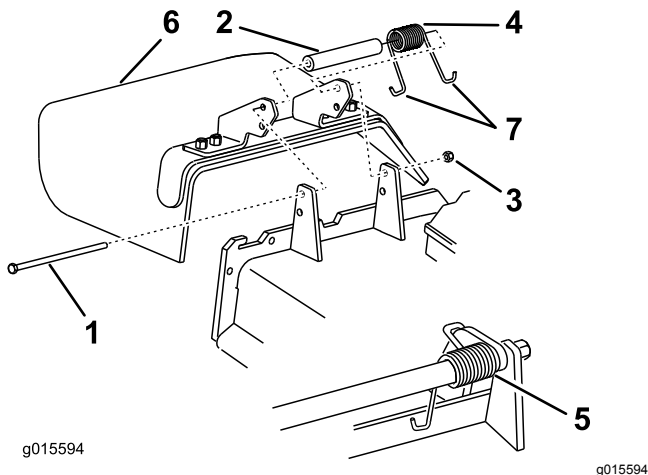

Figure 105
1. Remove the locknut, bolt, spring, and spacer holding the deflector to the pivot brackets (Figure 105).
2. Remove the damaged or worn grass deflector (Figure 105).
**Note:** Make sure that 1 J-hook end of the spring is installed behind the deck edge before installing the bolt as shown in Figure 105.
6. Place 1 J-hook end of the spring around the grass deflector (Figure 105).